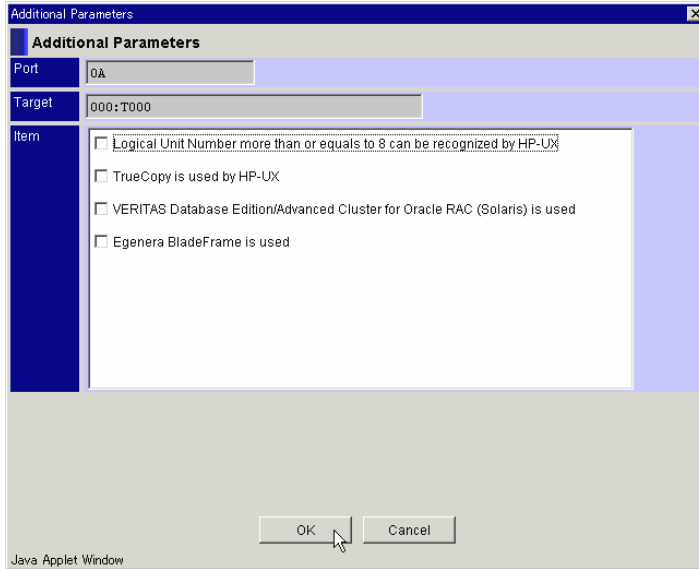

Figure 8.3 Additional Parameters Dialog Box
6. Click **Additional Parameters**. See Figure 8.3.